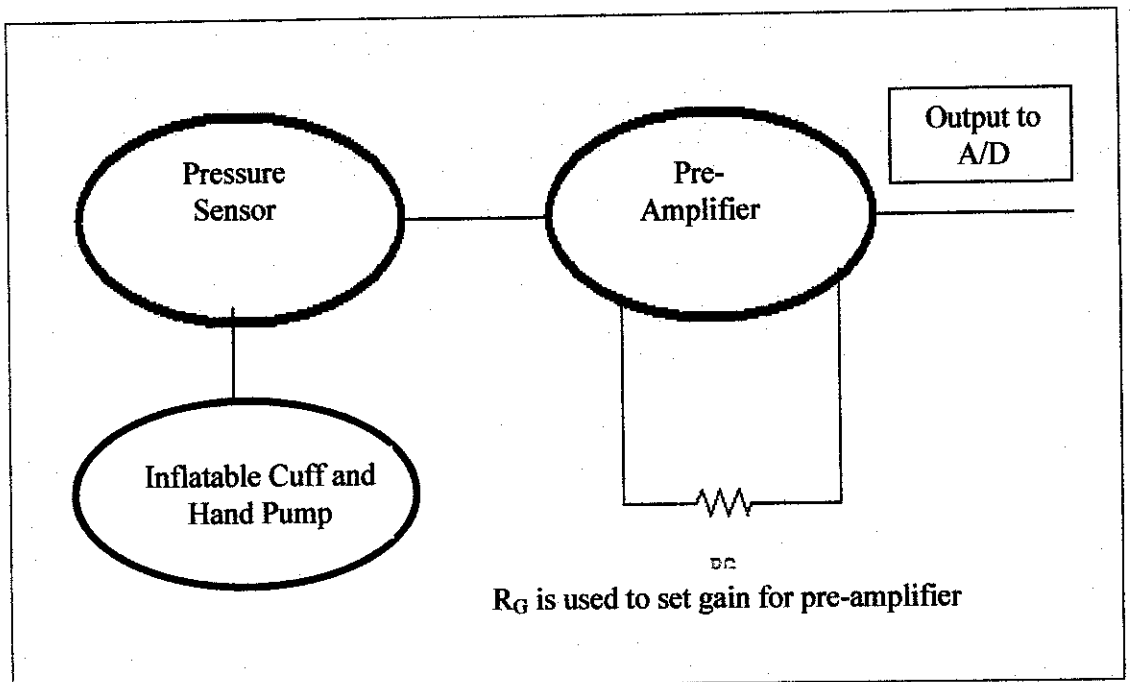

Figure 10: Block diagram for Blood Pressure Sensor Module
- Figure 10:** Block diagram for Blood Pressure Sensor Module